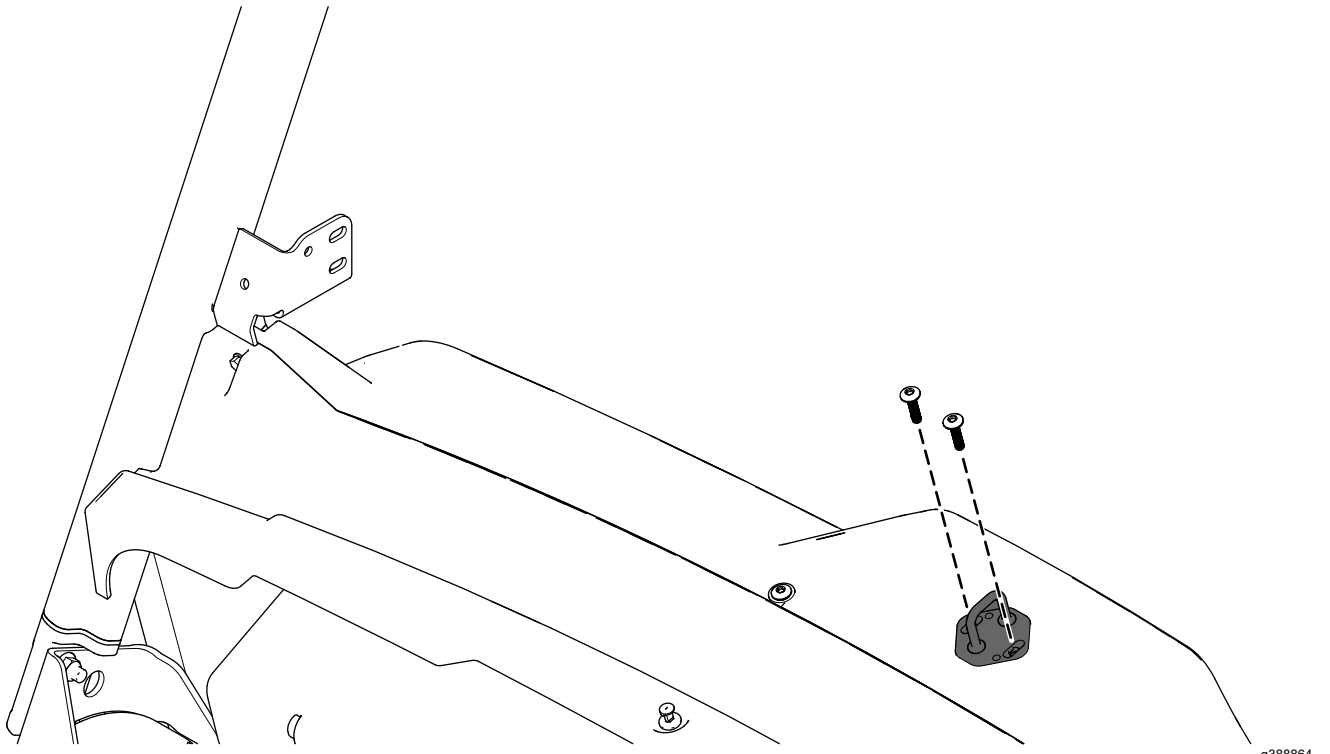

Figure 4
5. Loosely secure the latch to the dash using 2 torx-head screws (M6 x 25 mm) as shown in Figure 4. Do not torque the bolts until later.